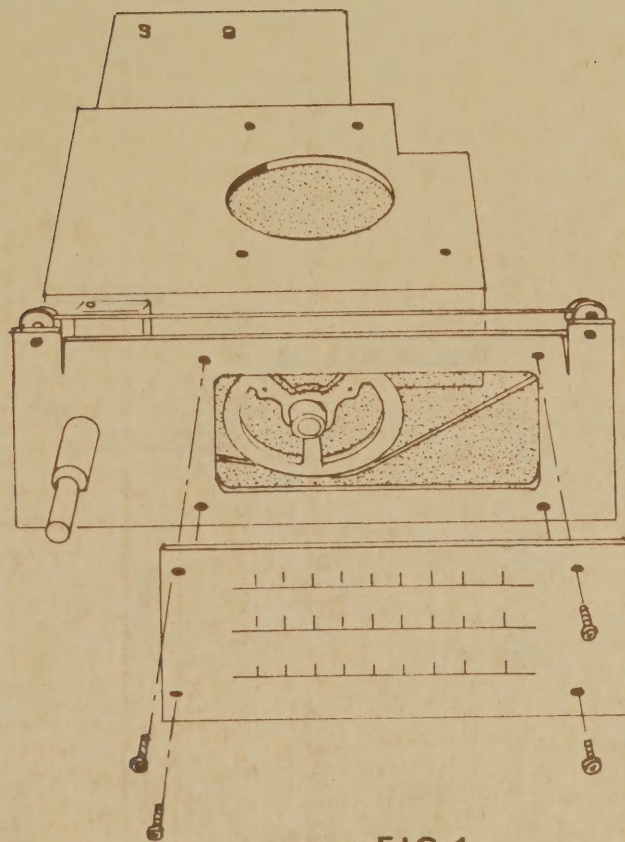

FIG. 1
2. Remove the dial together with four screws. (Fig. 1)